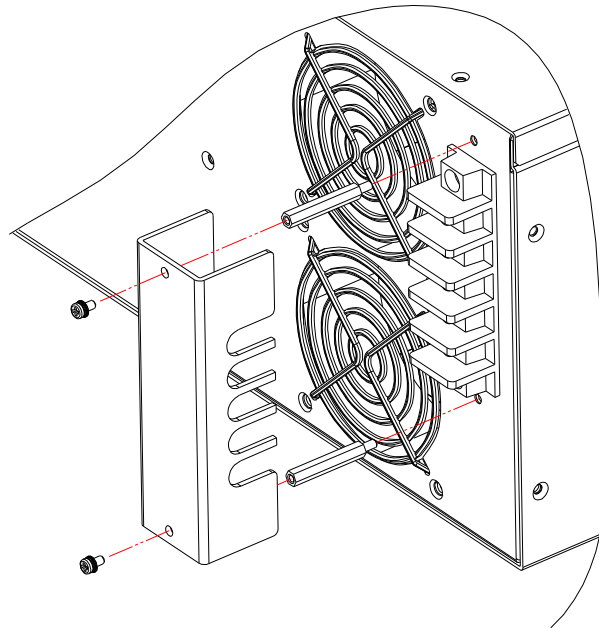

Figure 2-5 Assembling 42050 Input Terminal Safety Cover
- c. Lock the safety cover to avoid electric shock. See Figure 2-5 for assembly.